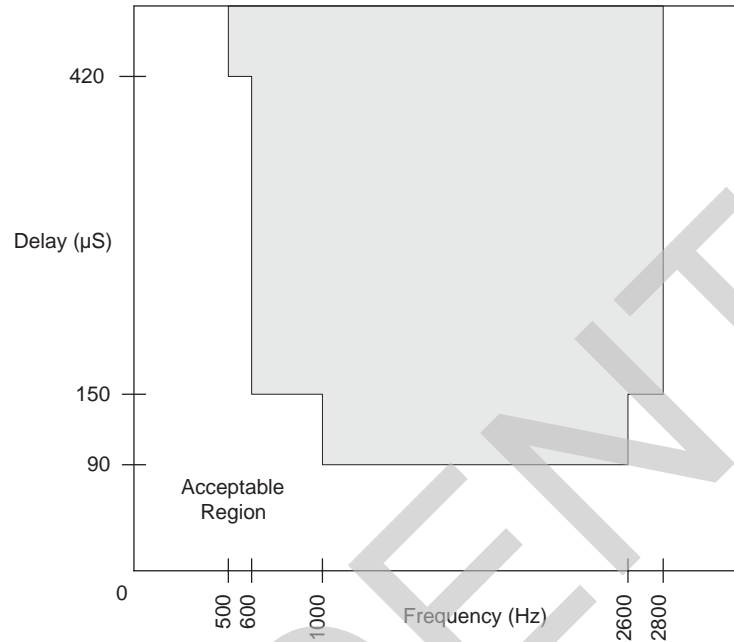

Figure 9 - Group Delay Distortion
- Note 6: The end-to-end group delay is the absolute group delay at the echo path with the B-filter turned off. Refer to the Next Generation Carrier Chipset Designer's Guide for more information. See Figure 9 for Group Delay Distortion versus frequency.
For either transmission path, the group delay distortion is within the limits shown in Figure 9. The minimum value of the group delay is taken as the reference. The signal level is -10 dBm0.